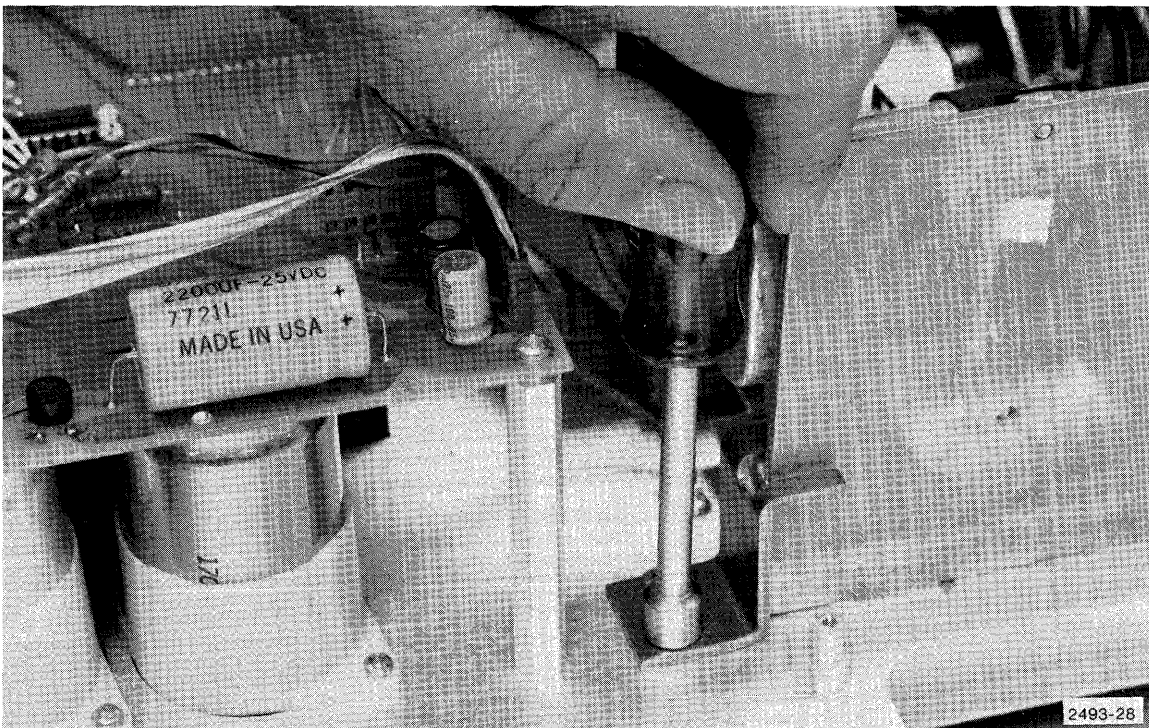

Figure 4-11. Loosening Drive Unit Fork/Clamp.
5. Loosen fork/clamp holding drive to chassis (Figure 4-11).